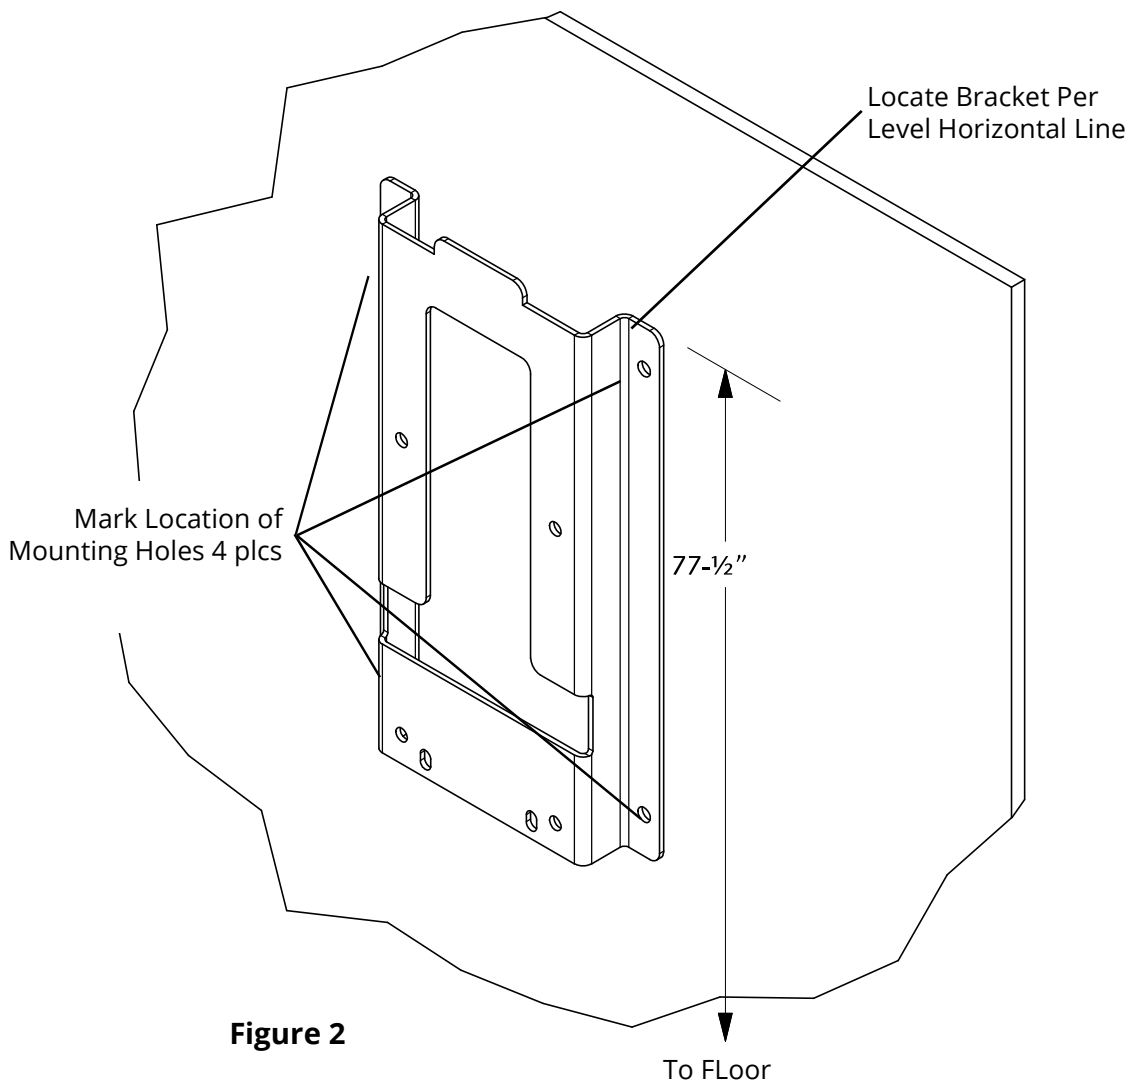

Figure 2
A bracket mounting height of 77-1/2" allows for adequate clearance beneath manifold when utilizing standard "H" size cylinders (55" tall overall). Bracket mounting height should be increased proportionally if taller cylinders are to be used. **See Figure 2**
5. Place bracket flat against wall as shown in Figure 2 and align top of bracket with level horizontal line. Vertical center line of bracket will be vertical center line of installed manifold. Mounting top of bracket at 77-1/2" height will net a 65-3/4" height from center of header to finished floor.